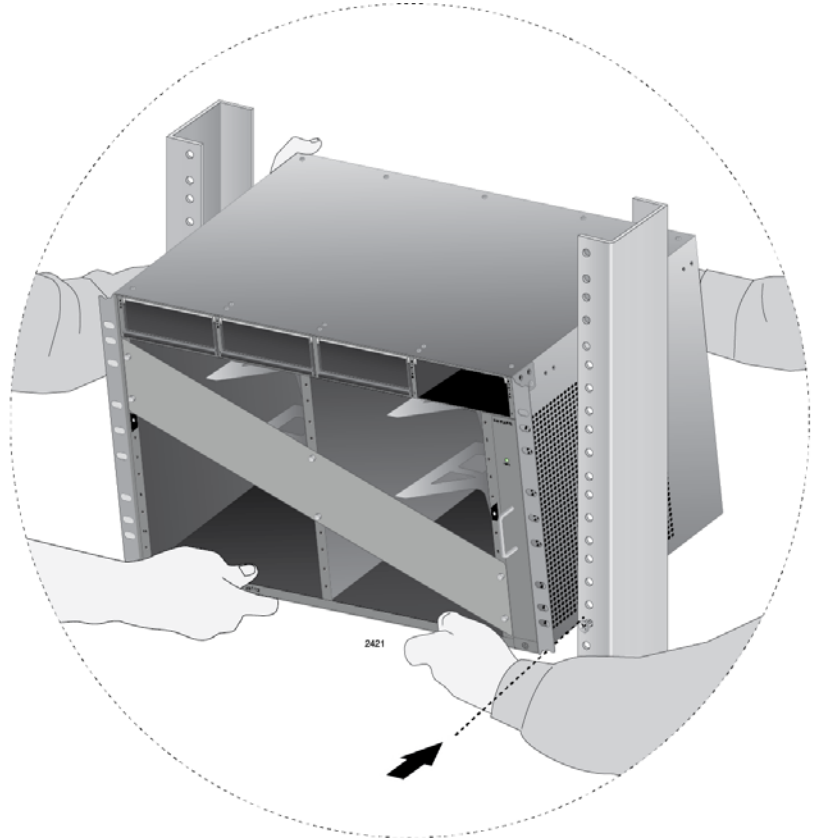

Figure 33. Lifting the AT-SBx8112 Chassis into the Equipment Rack
2. Do not mount any other equipment within 152.4 mm (6") above this space during installation. This additional vertical space is temporary and allows you enough room to lift and tilt the chassis into its position in the equipment rack without hitting other equipment, as shown in Figure 33 on page 99. You may use this additional space for other network equipment after the chassis is installed.
1. While facing the front of the chassis, tilt the top of the chassis toward you, as shown in Figure 33 on page 99.
2. Lift the AT-SBx8112 Chassis into the equipment rack and set the bottom of the equipment rack brackets firmly on the two equipment rack screws you installed in “Preparing the Equipment Rack” on page 91, as shown in Figure 33.